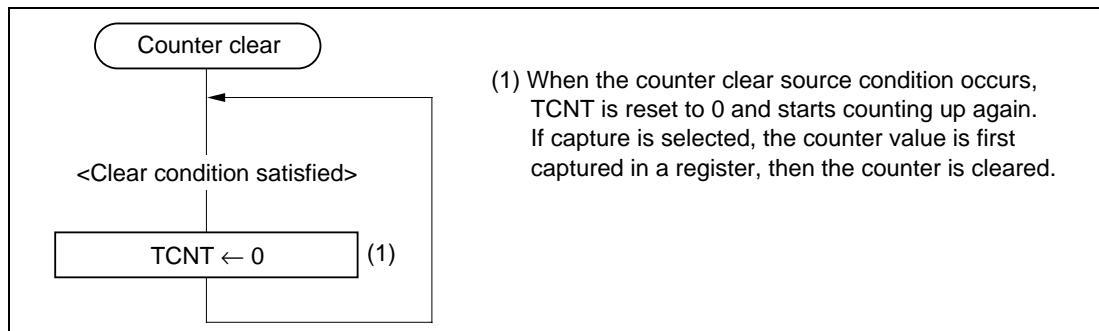

Figure 11-26 Counter Clearing Operation
**Counter Clear Operation:** Figure 11-26 illustrates the counter clear operation.